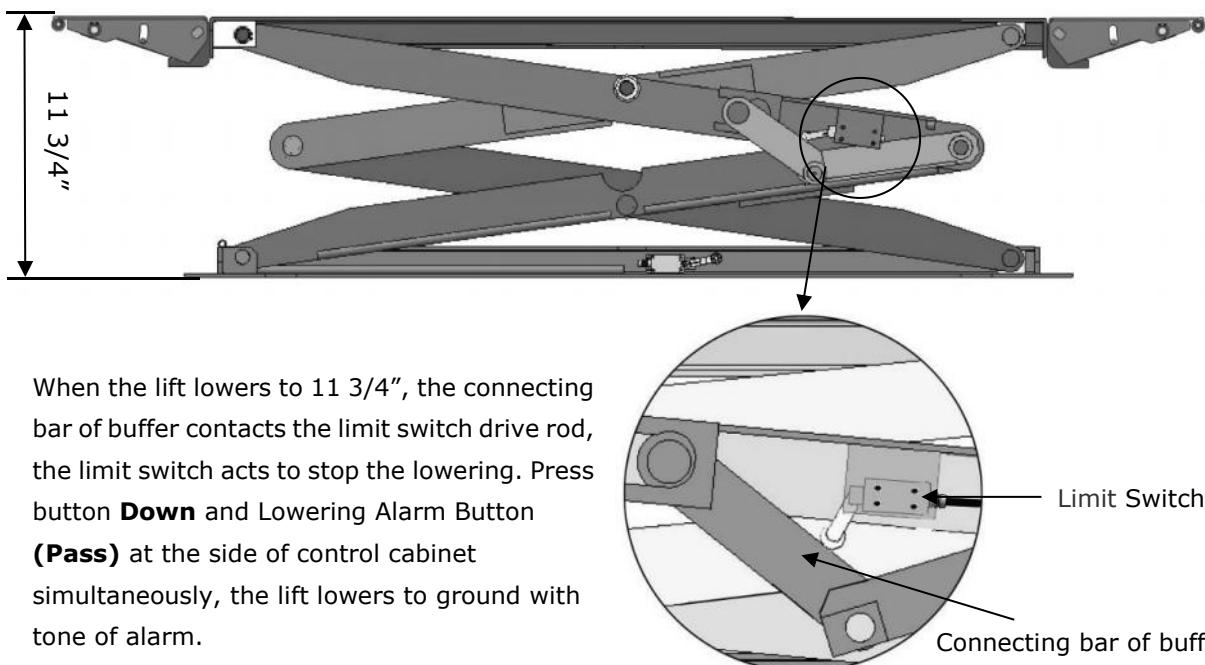

Fig. 18
3.2 Lower alarm device instruction (See Fig. 18)